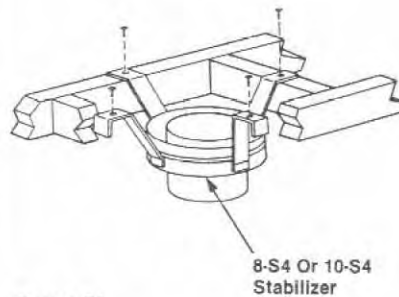

Figure 31
3. Use Elevation Chart as job estimator only; add necessary firestop spacers and stabilizers, as required. Firestop spacers must be used as shown in *Figures 23 and 24* and stabilizers as shown in *Figure 31*.